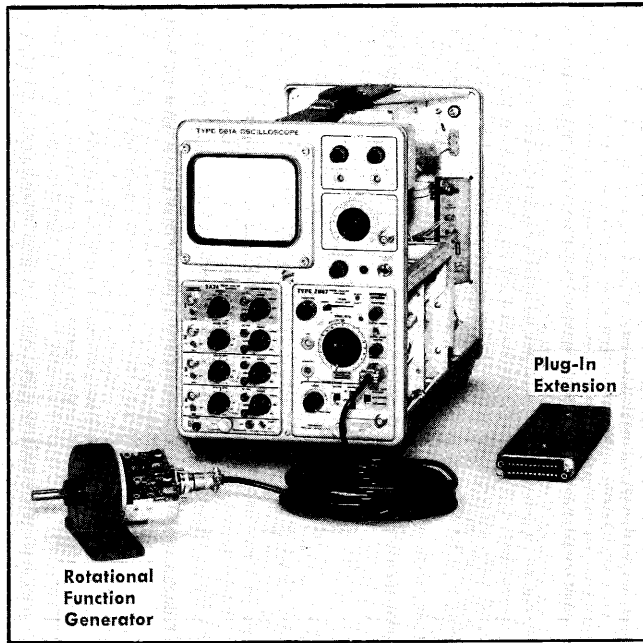

Fig. 5-29. Equipment arrangement for steps 16, 17 and 18.
b. The equipment arrangement is shown in Fig. 5-29. The preliminary control setup applies, except that the FOCUS control is fully cockwise and the TIME/DIV control is at ROTATIONAL FUNCTION GENERATOR position.
c. Connect the Rotational Function Generator to the 2B67 Rotational Function INPUT connector, using the 20 ft Function Generator Cable (item 4).
b. The equipment arrangement is shown in Fig. 5-29. The preliminary control setup applies, except that the Rotational Function Generator is connected to the 2B67 and the 2B67 TIME/DIV switch is at ROTATIONAL FUNCTION GENERATOR position. The 3A74 Channel 2 MODE switch is at NORM.
a. This step is dependent upon satisfactory performance of step 17. The equipment arrangement is shown in Fig. 5-29. The preliminary setup applies, except that the TIME/DIV switch is at ROTATIONAL FUNCTION GENERATOR position and an operable Rotational Function Generator is connected to the 2B67.